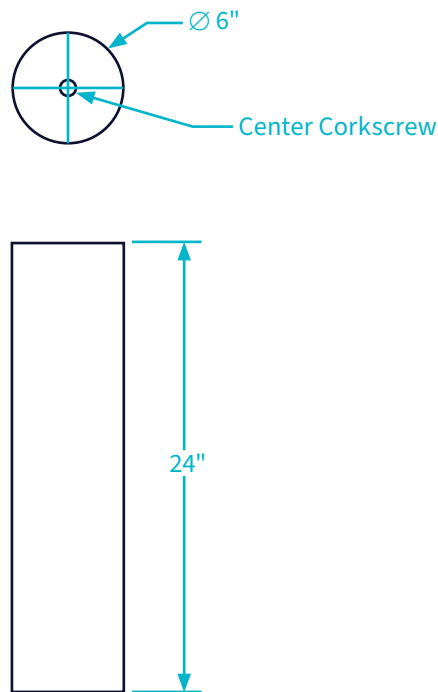

Figure 8: Round Hanging Baffle typical dimensions
6. Custom sizes are available, but typical “stock” size of baffles is a 6" diameter and 24" in length. See **Figure 8**, below.